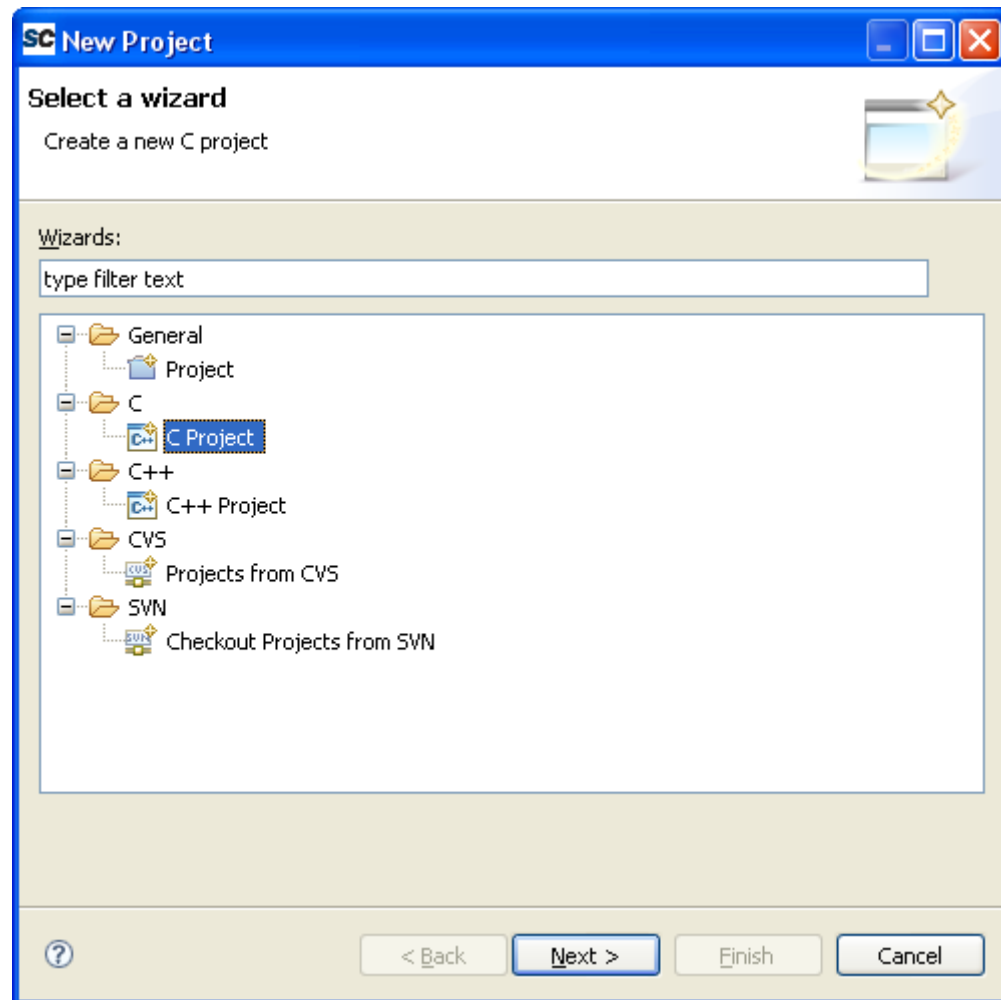

Figure 2-1 • New Project Window
3. Choose **File > New > Project**. The **New Project** window appears (Figure 2-1).